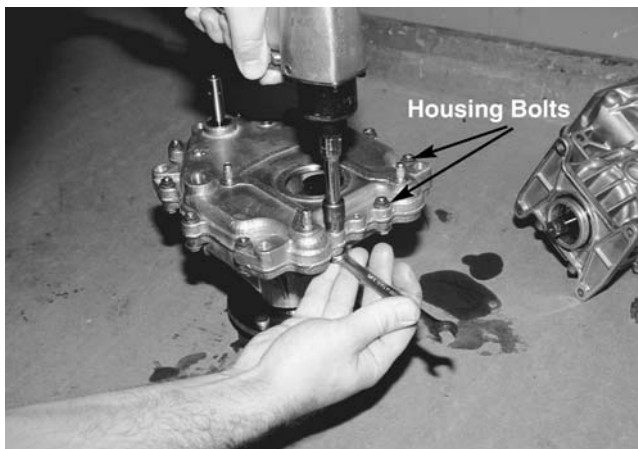

Figure 10-46.
6. To disassemble the housing halves remove the housing bolts with a 7/16 inch wrench and socket. See Figure 10-46.